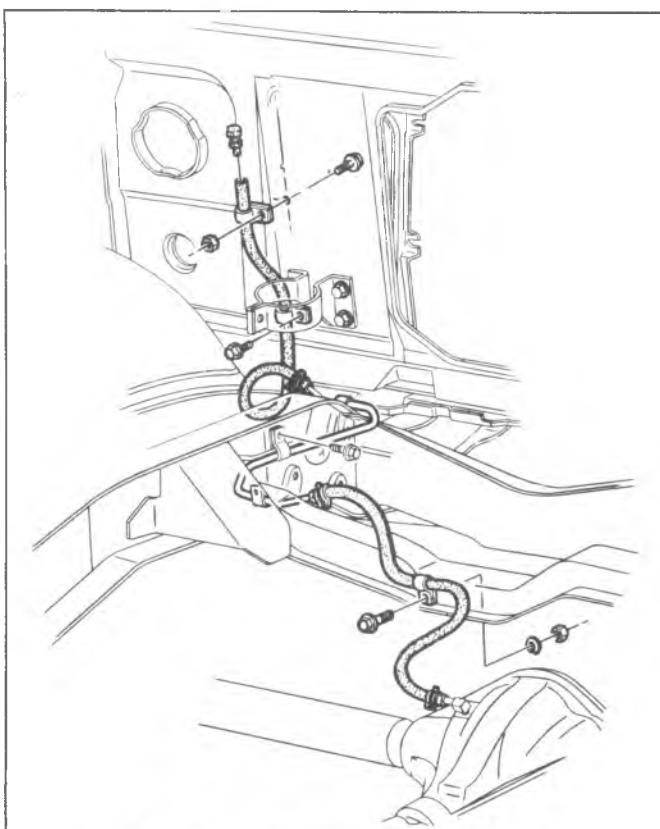

Fig. 56—Axle Vent Hose Routing - Typical
- 6. Disconnect axle vent tube clip at the differential housing (see fig. 56).